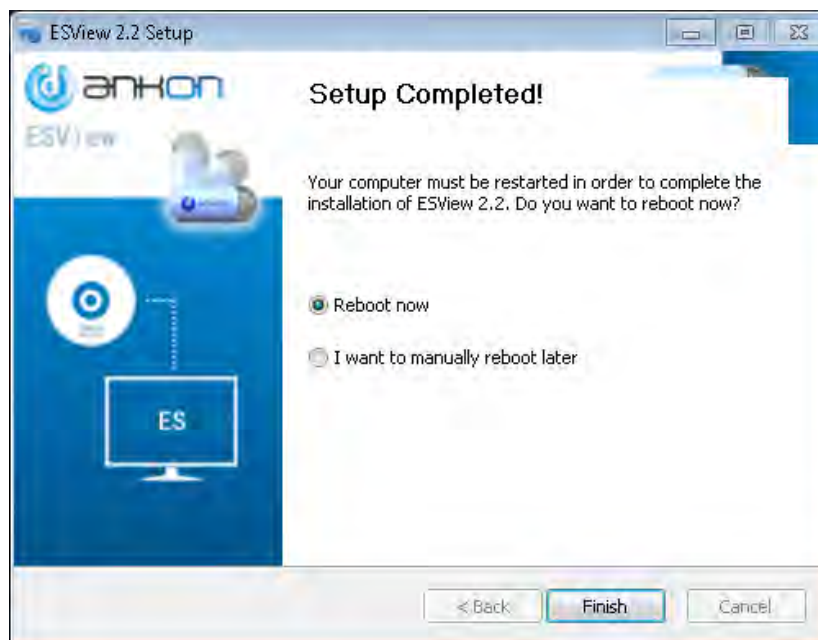

Figure 3-5: Successful Installation Dialog Box
- After ESView software is successfully installed, the “Setup Completed!” dialog box (Figure 3-5)